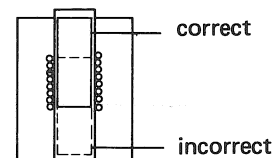

Fig. 4.4-1
**Important:** All tuning slugs are to be positioned so as to produce a maximum when turned to their upper setting. (see fig. 4.4-1)